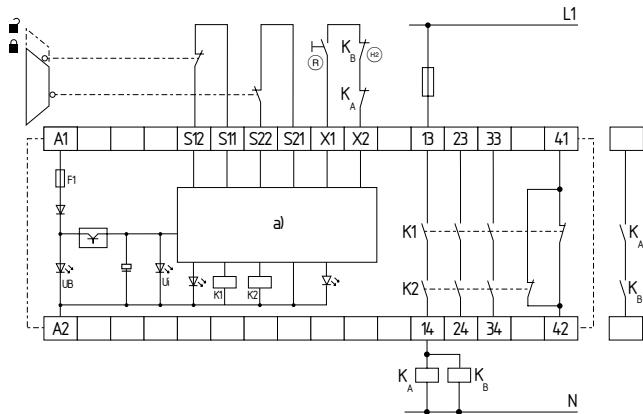

Fig. 2
**Dual-channel control, shown for a guard door monitor with two position switches where one has a positive break contact; with external reset button (R) (Fig. 2)**
- (R) = Feedback circuit